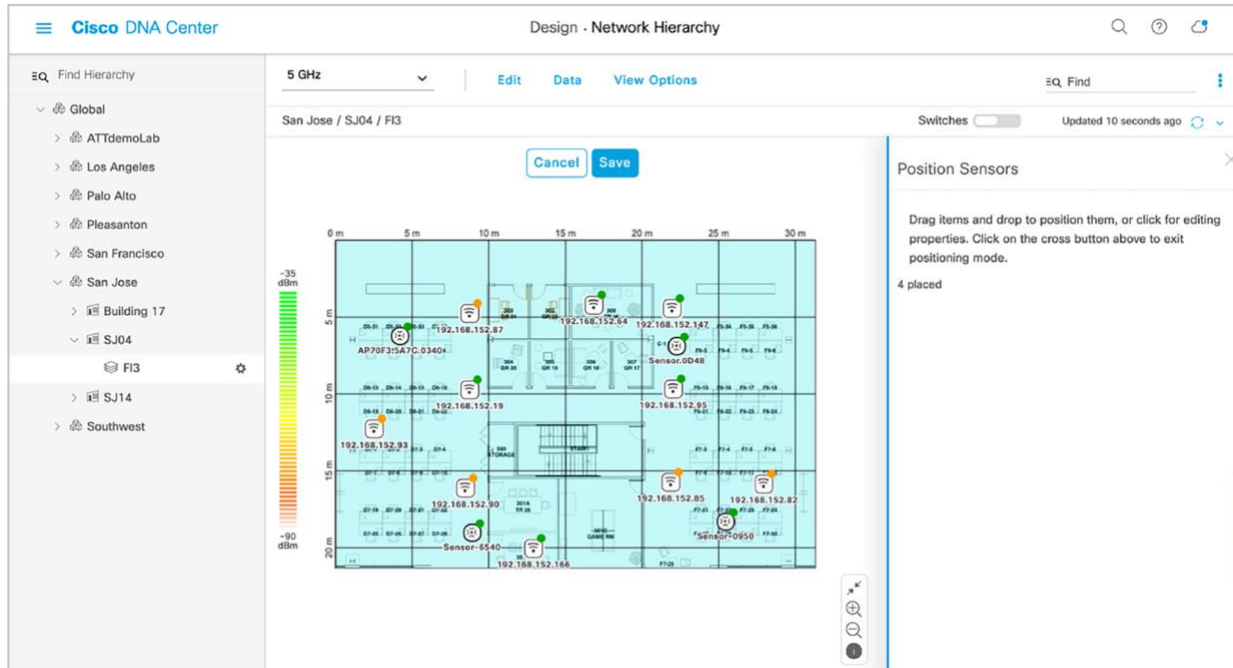

Figure 53.
1. Open the hamburger menu and click Design > Network Hierarchy, then click the desired floor and click Edit (Figure 53).
- a. You can drag and drop sensors from the upper right corner of the map to their current placement and click Save to apply the changes to the map (Figure 53.).